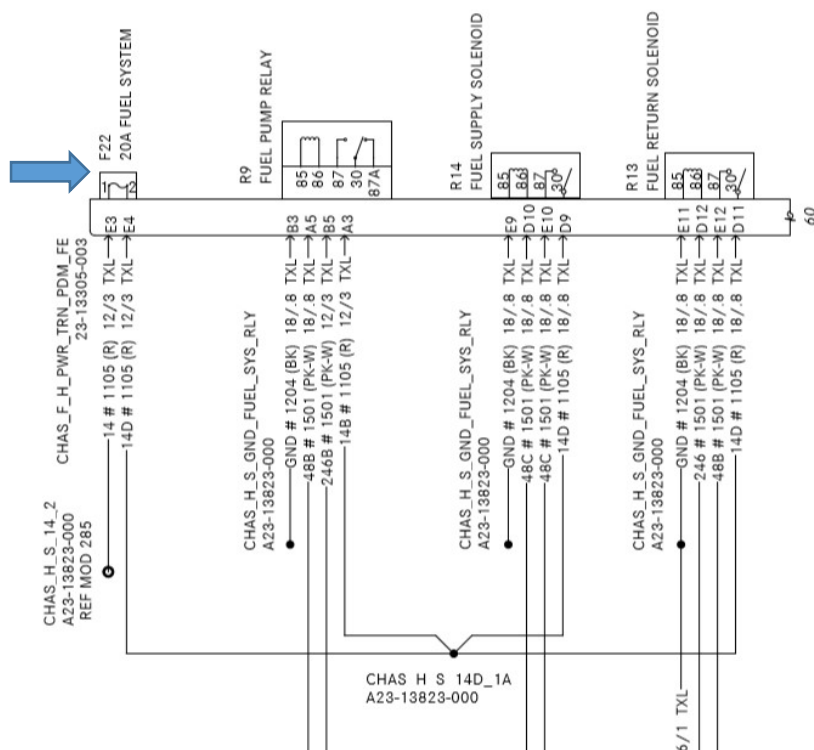

Figure 1
2. Perform initial amp test on circuit at the 20 amp Fuel System fuse (F22) in the front PDM. With the engine running, 11 to 15 amps is normal. See Figure 1